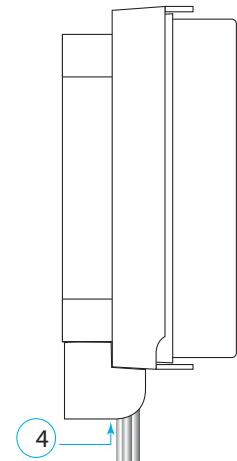

Fig. 7.5
4. Verify that all the IB7000 cables exit through the bottom opening of the cover before pressing the cover in to close. The cover will snap securely into place (Fig. 7.5).